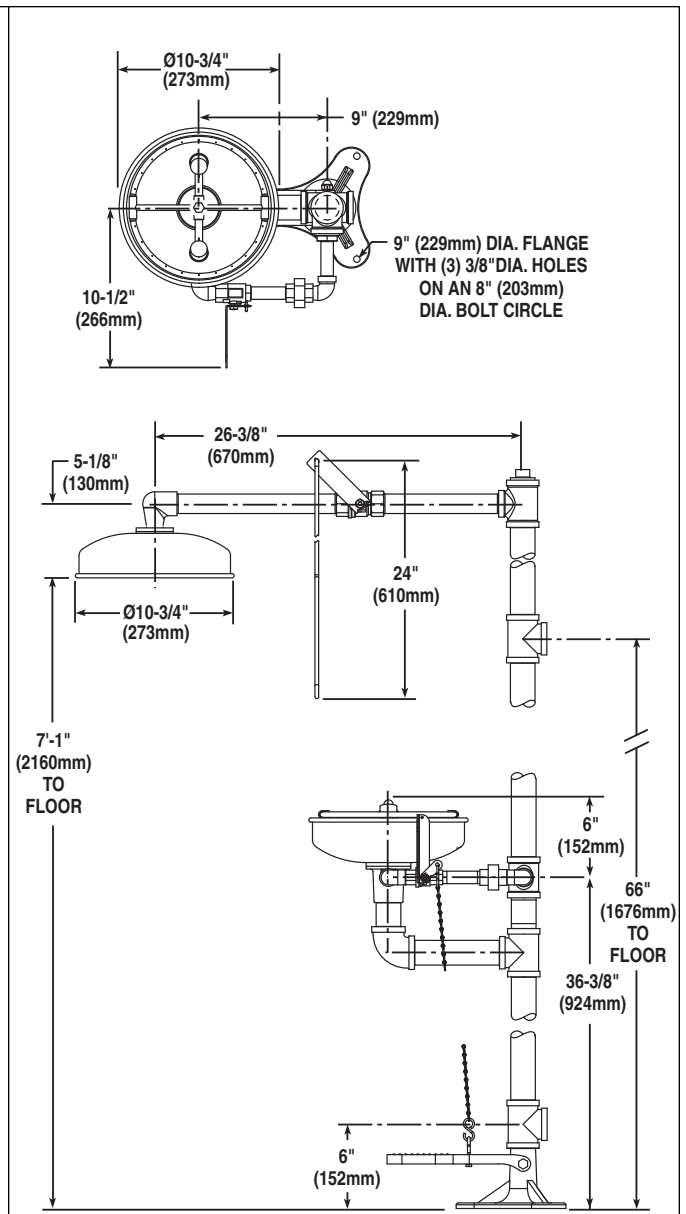

Figure 1
1. Install three suitable anchors (by installer) for 3/8" bolts in the floor (see Figure 1).